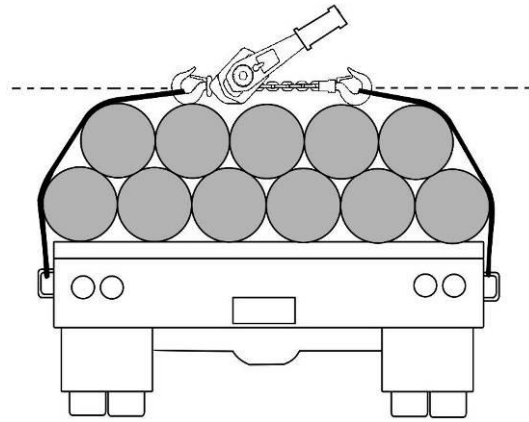

Figure 9
- During pulling operations, the operator should stand near the side of the top hook on the opposite side of the lever. If the hand should slip off the lever, the lever will spring back away from the operator, (Fig. 9).
- Prevent the chain from dragging over sharp edges or corners. These will cause links to weaken, bend, or break, (Fig. 9).
- When using a wire rope sling, the puller must be applied along a straight line parallel to the surface on which it is resting (Fig. 9).